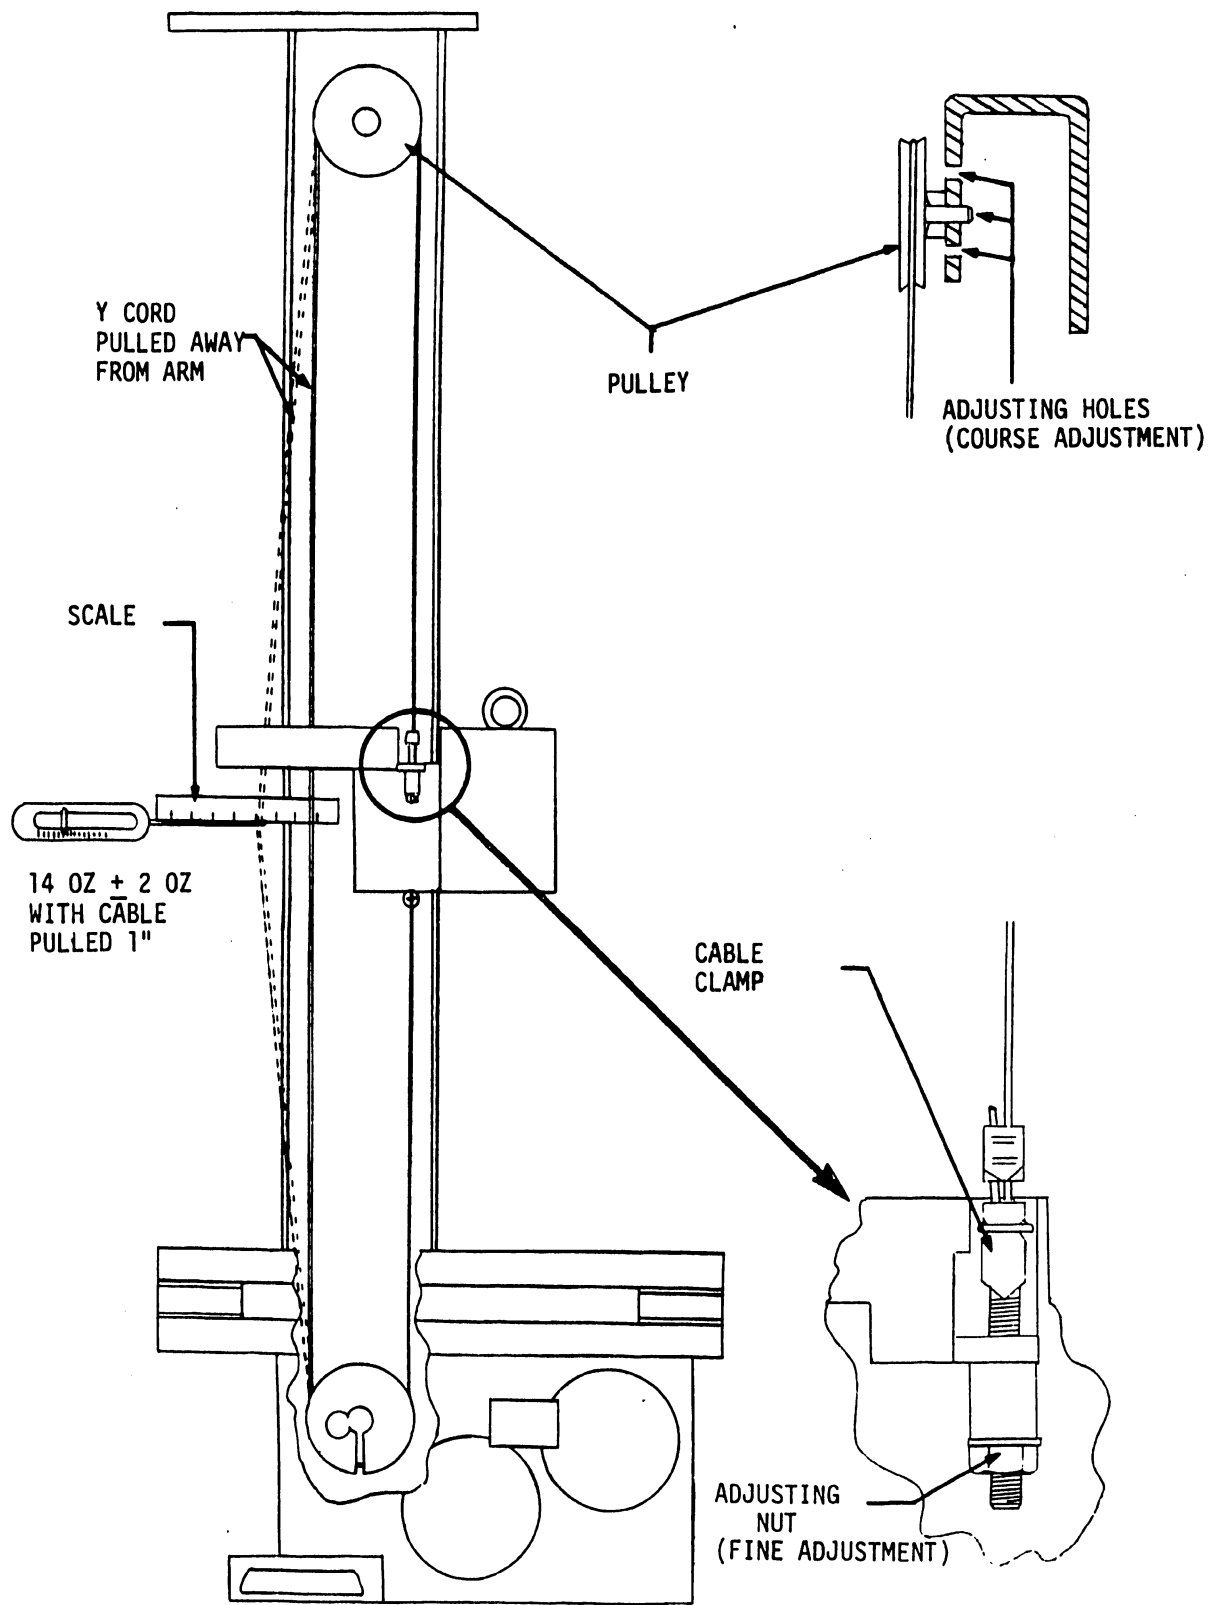

FIGURE 24
- 1) With the carrier assembly in the center of the Y arm, using a spring scale, pull the cable away from the arm. When the cable is pulled a distance of 1" there should be a reading of 14 oz  $\pm$  2 oz (See Figure 24).